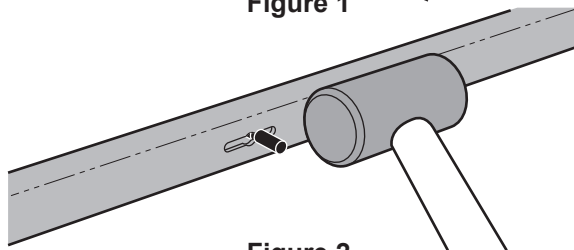

Figure 2
- b) From the back side of the accessory rail, using a plastic mallet, lightly tap the locator peg towards the larger opening in center "keyhole" in the rail. Remove and discard the peg. (Fig. 2)